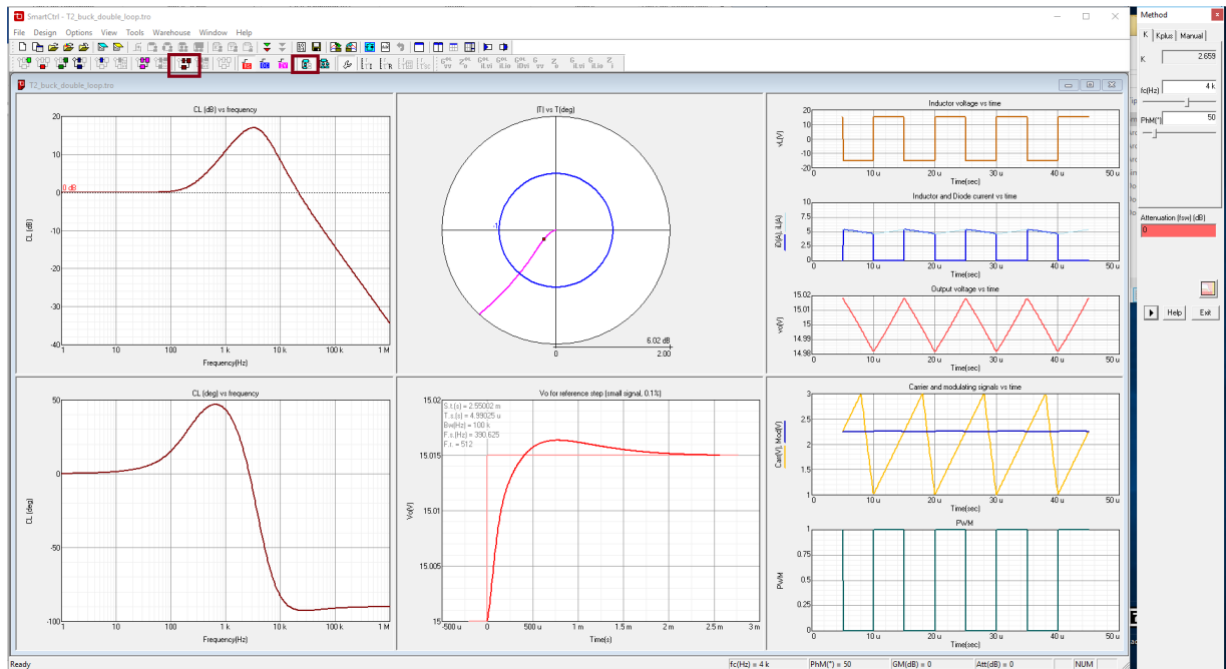

Figure 28: SmartCtrl with inner current close loop transfer function plotted
- To do this, configure SmartCtrl as in Figure 28 so the closed loop transfer function of the inner loop is shown.